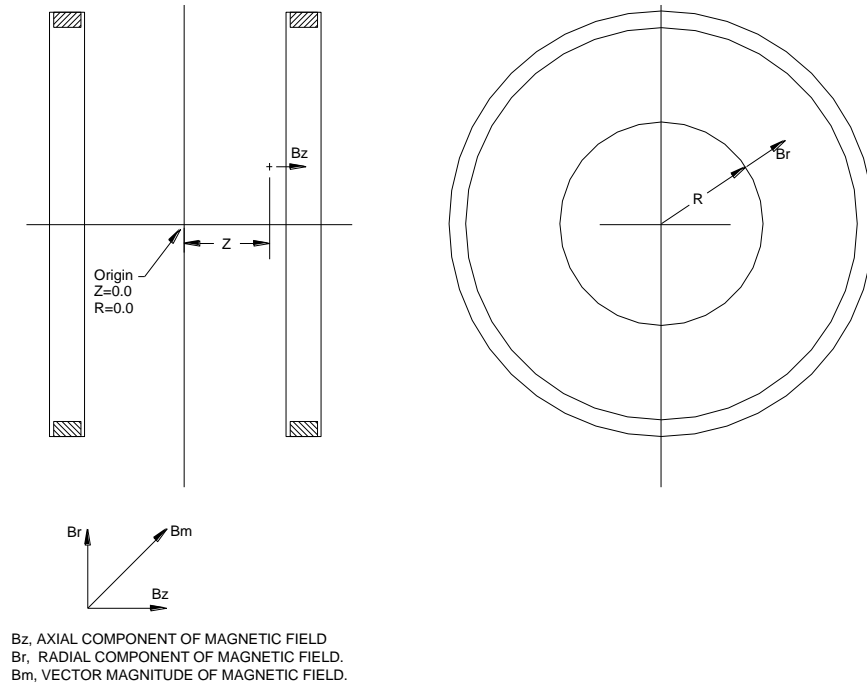

Figure 3. Definition of Terms
The magnetic field uniformity (homogeneity) is defined as being within  $\pm 0.5\%$  of the center value over a cylindrical volume 0.75 in long and 0.75 in diameter (1.9 cm long and 1.9 cm diameter). Sometimes a user wants to use a larger volume, and is willing to accept a greater field difference than the 0.5%. Table 3 shows the axial (Z) and radial (R) components of the field for various positions in the coil. The values are normalized for 30 G in the center (0,0). Figure 3 defines the Z and R axes.